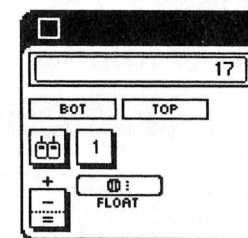

Figure 1-18 The Calcshell after Radical Cleanup
- ❖ **Radically Cleanup All Parts.** Pull down this option from the Calculator menu to move all parts in the Work window as close together as possible. The Calcshell is then auto-resized and moved to the top left corner of the Work window. Figure 1-18 (below) shows the result of a radical cleanup on the calculator shown in Figure 1-16.